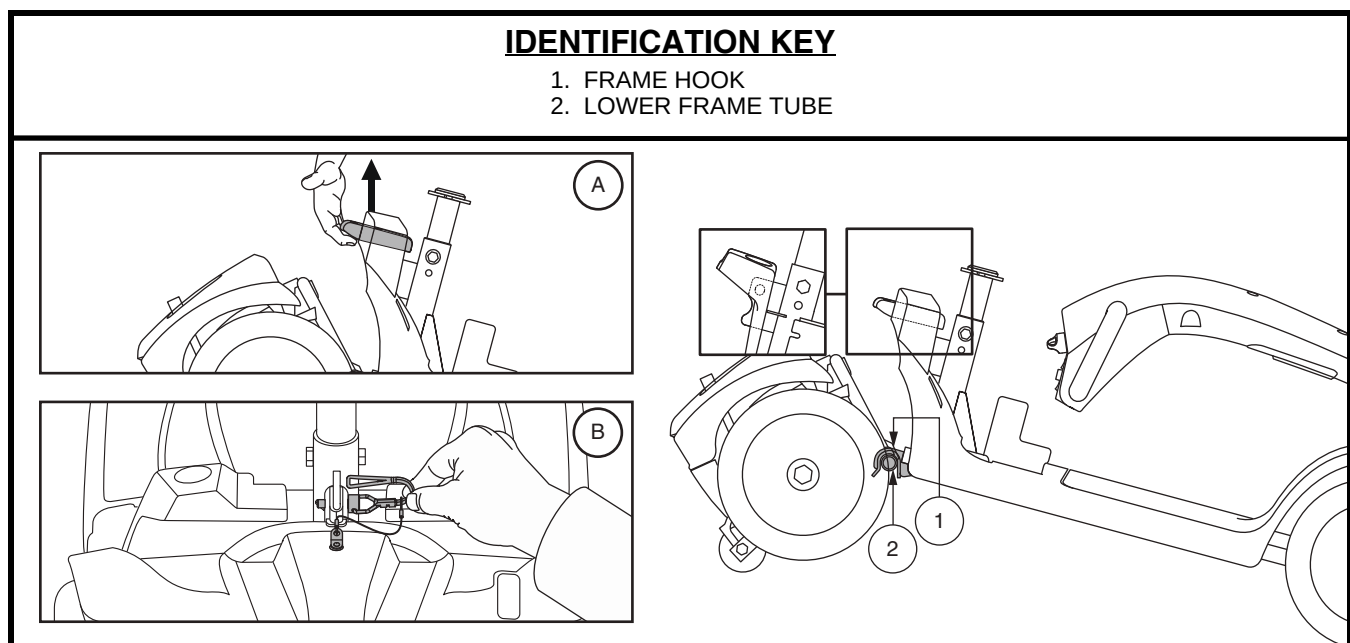

Figure 23. Frame Release Lever (Style A) and Frame Release Lockup Pin (Style B)
3. Remove the frame lockup pin (Model 104 only.) See figure 23.
1. Position the front and rear sections of your scooter as shown in figure 23.
2. Use the frame release lever (**or the seat post for model 104**) to lift the front section as you align the frame hooks of the front section with the lower frame tube of the rear section. See figure 23.